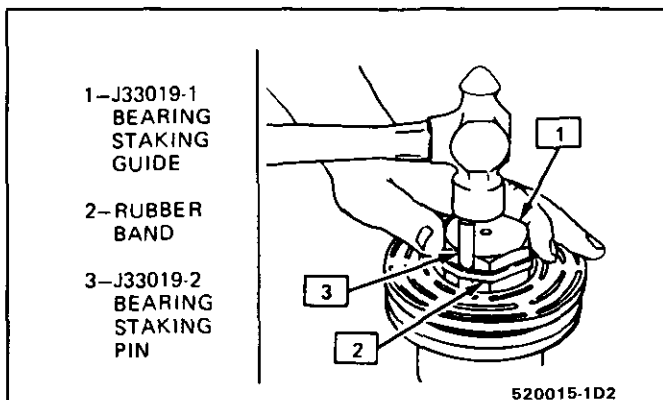

Fig. 15 Staking Bearing In Rotor Hub Bore
3. Place bearing staking guide J-33019-1 and bearing staking pin J-33019-2 in the hub bore as shown in Fig. 15. Shift the rotor and bearing assembly on the J-21352-A support block to give full support of the hub under the staking pin location. A heavy-duty rubber band may be used to hold the stake pin in the guide (Fig. 15), and the stake pin should be properly positioned in the guide after each impact on the pin.